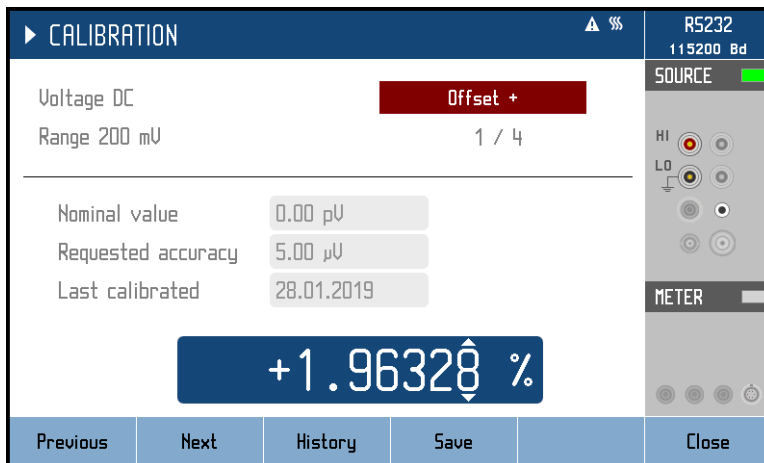

Figure 43 Calibration point adjustment - direct
- Values with other units (mostly used in meter functions or fixed source standards) can be calibrated indirectly by typing in meter readout. Figure 43 below shows an example of 100 Ω point of fixed resistance function which has been adjusted by measuring resistance on output terminals with standard meter and typing in the standard readout (99.9955 Ω)